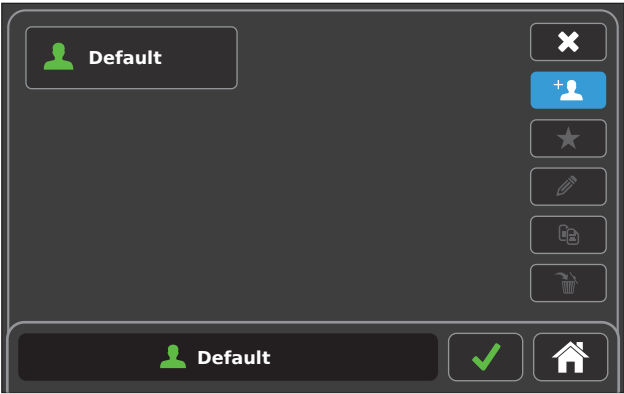

Figure 53 – Create Preset
- To create a preset, touch the CREATE NEW button (Figure 53).